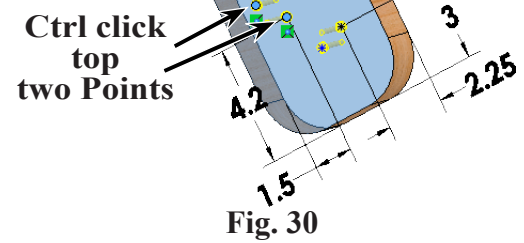
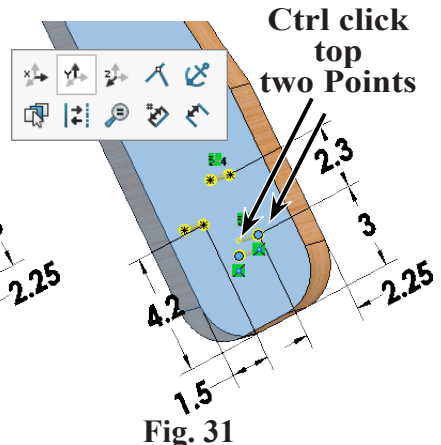

Fig. 30
Fig. 31
Step 17. Repeat twice on the 2nd and 3rd set of Points, **Fig. 30** and **Fig. 31**: **Ctrl click other Points on inside face and outside face** to select both Points. **Release Ctrl key** and click **Make Along Y**  on the context toolbar.